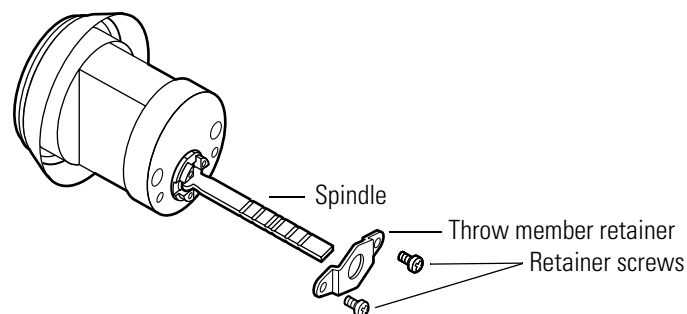

Figure 5.16 Securing the spindle
3. While holding the spindle in place, use a narrow-blade screwdriver to secure the throw member retainer to the back of the cylinder with the two retainer screws. See Figure 5.16.